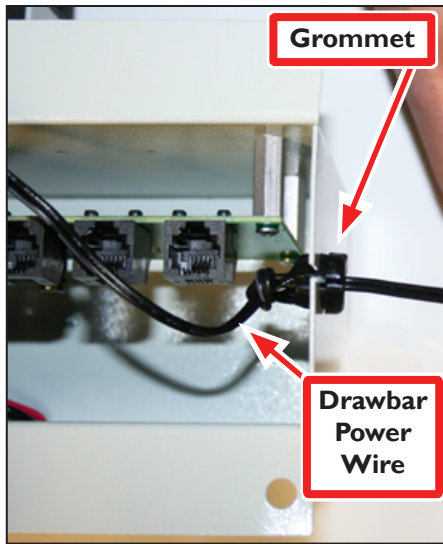

Figure 29
2. Identify and remove the Grommet on the Drawbar Power Wire (see **Figure 29**) and discard.